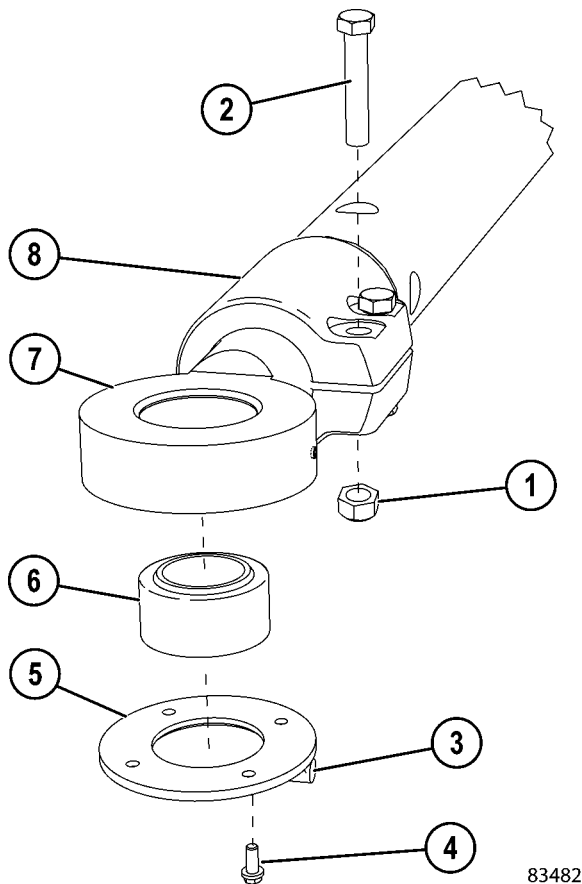
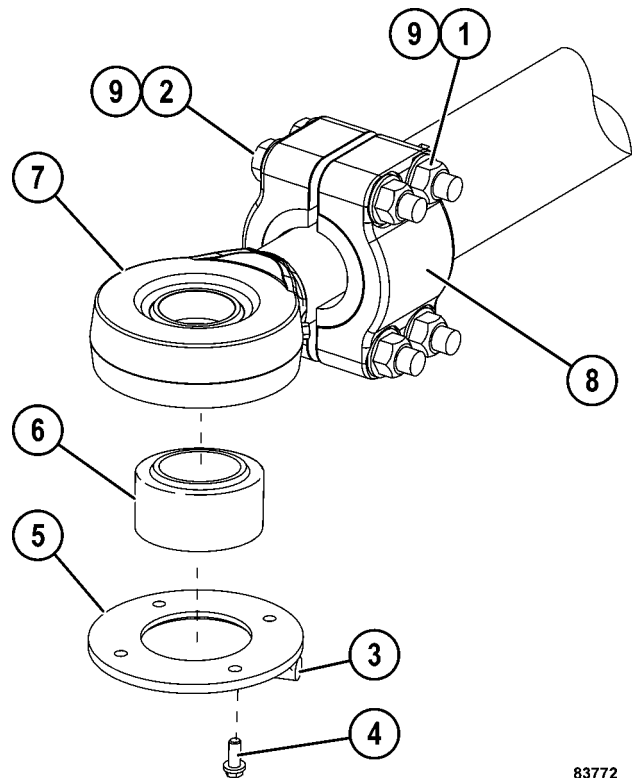

FIGURE 3-13.TIE ROD ASSEMBLY (OLD STYLE)
FIGURE 3-14.TIE ROD ASSEMBLY (NEW STYLE)
1. Remove capscrews (4, Figure 3-13 or Figure 3-14) and retainer (5).
2. Push or press out bearing (6) from rod end (7).
3. Remove locknuts (1) and capscrews (2). New style tie rod clamps also have two flat washers (9, Figure 3-14) on each capscrew.
4. Rotate rod end (7) to remove it from the tie rod tube.
1. Install bearing (6, Figure 3-13 or Figure 3-14) into rod end (7).
2. Install retainer (5) with capscrews (4) and tighten to standard torque. Ensure that anti-rotation pads (3) on the retainer are perpendicular to the shaft of the rod end. This will prevent the rod end from twisting from side to side once it is installed on the truck.
3. Coat the threads on rod end (7) with a lithium based chassis grease (multi-purpose, EP, NLGI #2).
4. Install rod ends (7) into the tie rod tube.
5. Lubricate the threads and seats of capscrews (2) with a lithium based chassis grease (multi-purpose, EP, NLGI #2). Install capscrews (2) and locknuts (1). New style tie rod clamps also have two flat washers (9, Figure 3-14) on each capscrew. A final torque is not needed until the tie rod assembly is installed on the truck and the toe-in adjustment is performed.